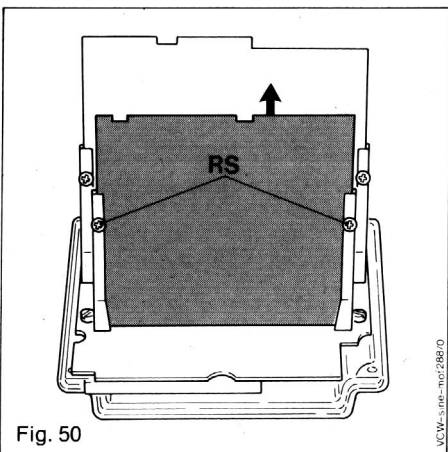

Fig. 50
14.6.2 Change of fan control circuit board (F.C.C.B.) (Fig. 50)